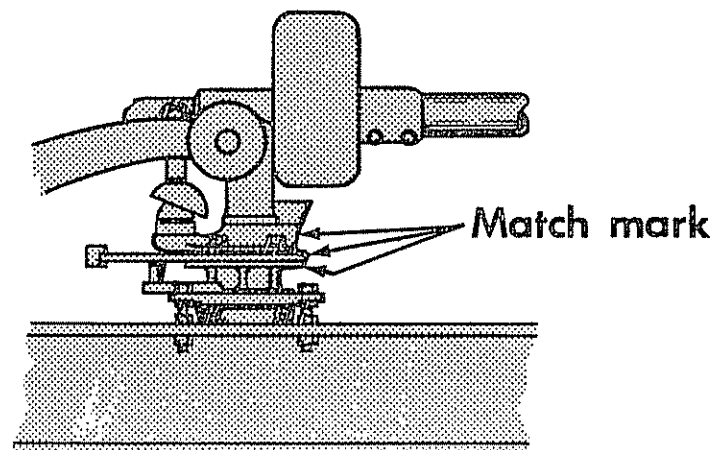

Figure 2
2. Using any convenient means, match mark the lower parts of the hinge assembly with the switch arm and the rotating hub to insure correct re-assembly as shown in figure 2.